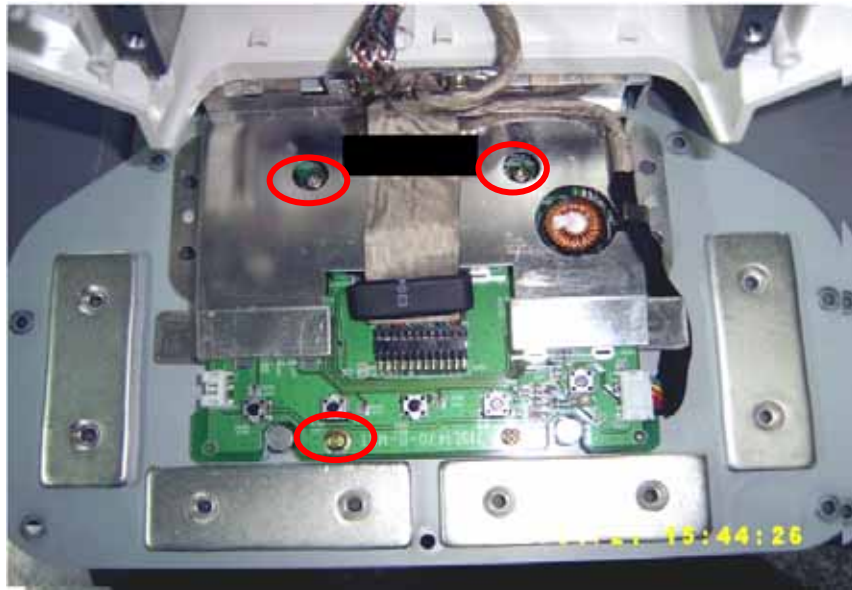

Fig 7
7. Remove the main board. (Fig 7)